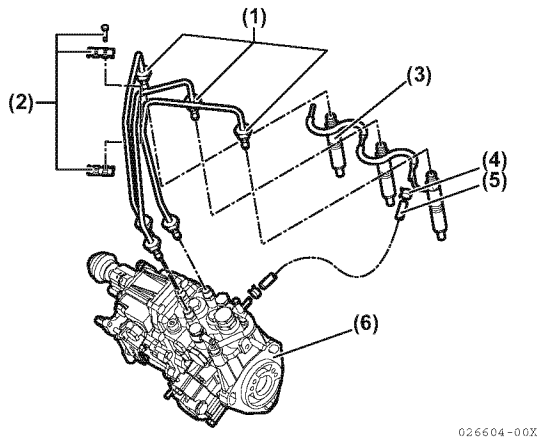
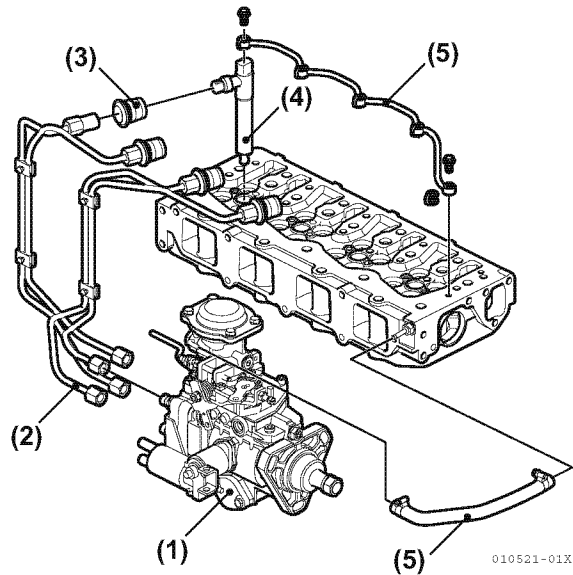

Figure 5-32
Figure 5-34
27. Remove the fuel injection line (Figure 5-32) through (Figure 5-34):